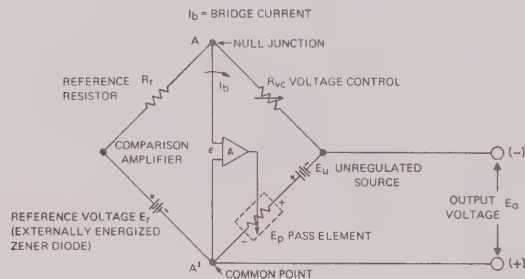

FIG. 3-3 KEPKO POWER SUPPLY AND COMPARISON BRIDGE CIRCUIT
3-8 INTRODUCTION TO REMOTE PROGRAMMING (Refer to FIG. 3-3)
3-9 A few general remarks may be in order to familiarize the user of this equipment with the terminology and basic equations pertaining to remote programming of the Kepco PCX and PCX—MAT Power Supplies. Electrically, the power supply consists of the unregulated DC source (E_U) the pass element (E_P), the DC error amplifier (A) and a comparison circuit which resembles a four-arm electrical bridge. (Refer to FIG. 3-3). The elements of the bridge are arranged to produce a virtual zero at the amplifier input when the bridge circuit is at balance ($V_{AA}'=0$). Any tendency for the output voltage to change in relation to the reference voltage (R_r) creates an error signal which, by means of negative feedback and the amplifier, tends to correct the output voltage towards restoration of bridge balance.